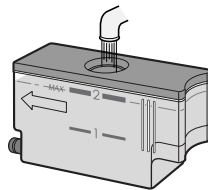

Figure 2
3. Fill the reservoir with **fresh cold tap water through the lid to the 2 mark each time you begin to cook.** (Figure 2) Do not fill the reservoir over the 2 mark.